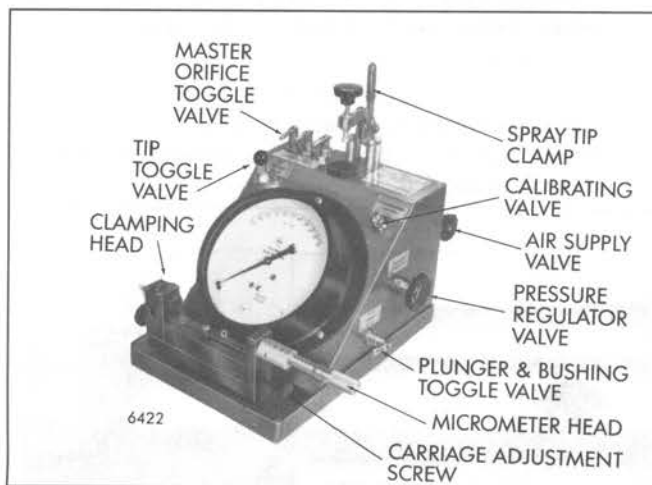

Fig. 12 - Plunger/Bushing and Tip Flow Gage
Place the flow gage unit in a clean well lighted area that has an air supply of 40 psi (276 kPa), but not more than 150 psi (1034 kPa). Turn off the air supply valve (on the rear of the flow gage) and connect your air line. Familiarize yourself with the various components on the unit (Fig. 12).
1. Set all toggle valves in the *closed* position (Fig. 12).